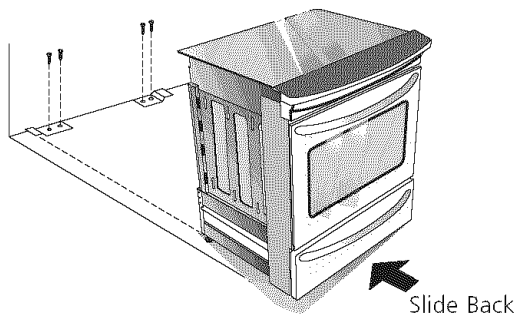

Figure 14
1. Unfold paper template and place it flat on the floor with the back and side edges positioned exactly where the back and sides of range will be located when installed. (Use the diagram below to locate brackets if template is not available. (Figure 14))